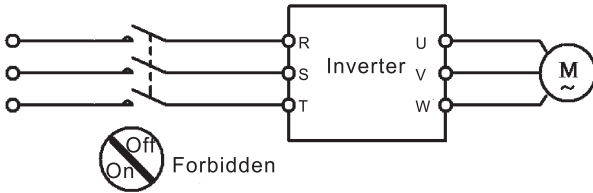

Figure 1-5. Three phase AC Power supply
- DO NOT proceed direct start-stop operation frequently with a contactor or any other switch devices in the inverter input side. As large charging current exists in the main circuit of the inverter, frequent power-on/off may produce cumulative effect resulting in heat fatigue of inverter components and great reduction of service life of the inverter. See the detail in the Figure 1-5.